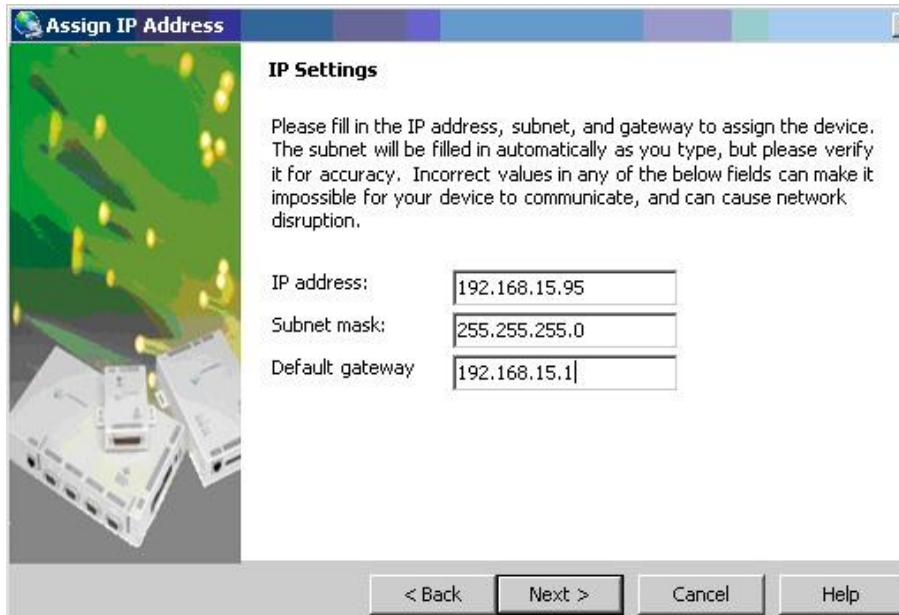

Fig. 5
The IP Settings screen displays. In Fig. 5 the setting values are only examples!
5. Enter the IP address, subnet mask, and default gateway (Fig. 5), and click Next.